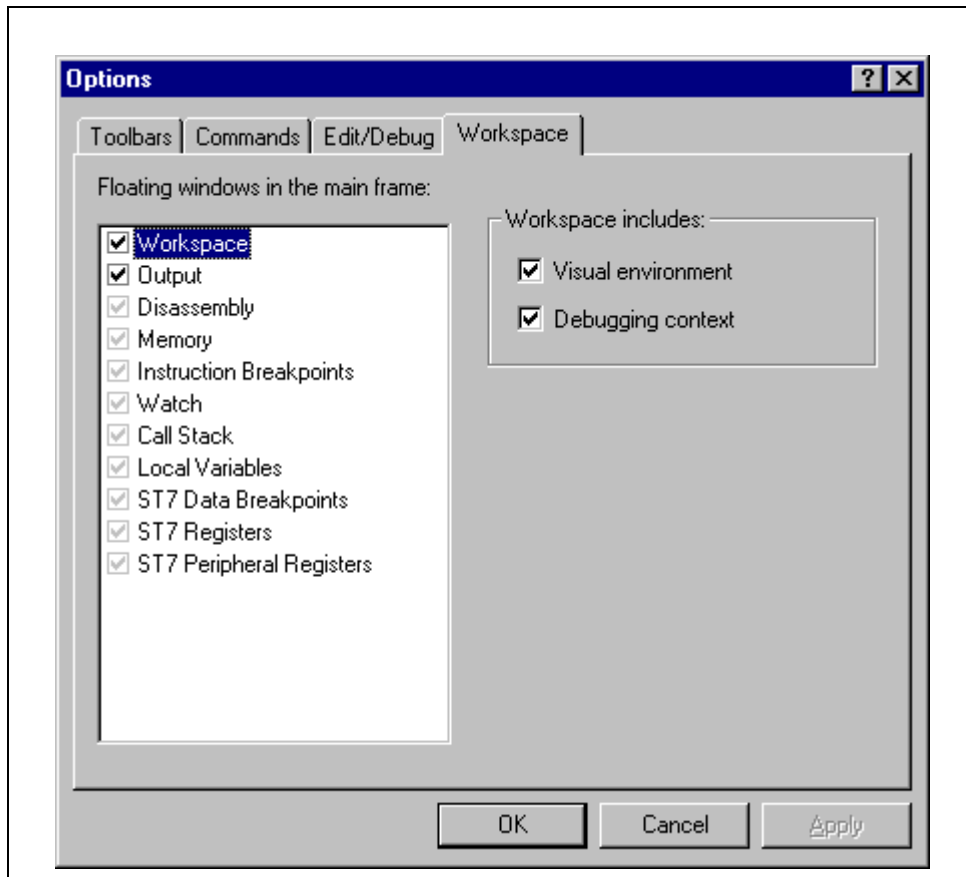

Figure 10: Options window
- 2 In the Options window that opens (see *Figure 10 on page 34*), select the **Workspace** tab.